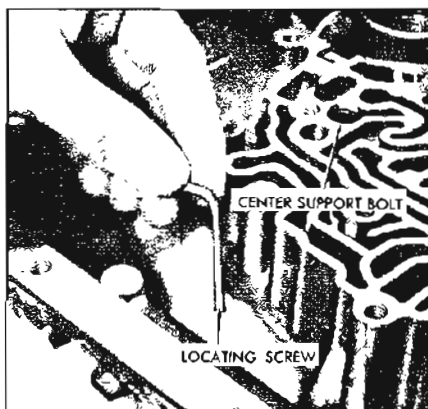

Figure 5-544A
12. Remove the case center support to case bolt and center support locating screw. See Figure 5-544A.